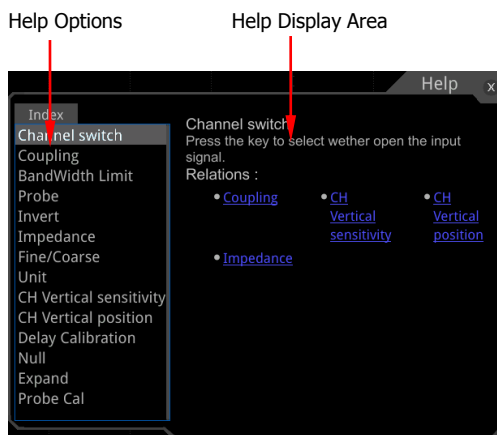

Figure 13 Help Information
2. Click **Content**, and then the help information is displayed on the screen, as shown in Figure 13. The help interface mainly consists of two sections. The left section lists "Help Options", and the right section is the "Help Display Area".